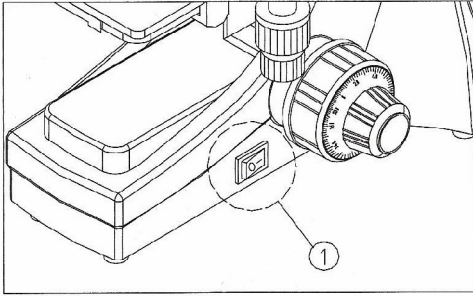

Fig.20
3.2.1 Open Lamp-House (Fig.20)